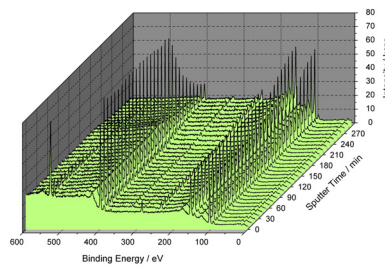

Fig. 2. Plot 3D-Waterfall 45°: surveys SiNxOy
2. Plot 3D-Waterfall 45°: Plot of spectra (see Fig. 2) or sum curves with 45° viewing,